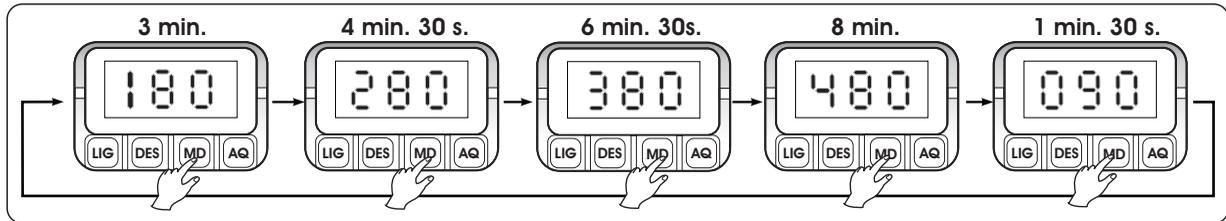

Fig.13
- 6► Select the time desired on the panel using the **MD** key. The time selection begins with the standard cycle of 180s (3 min.). Each touch on the **MD** key, the display will show one of the 5 preset cleaning times (Fig. 13).